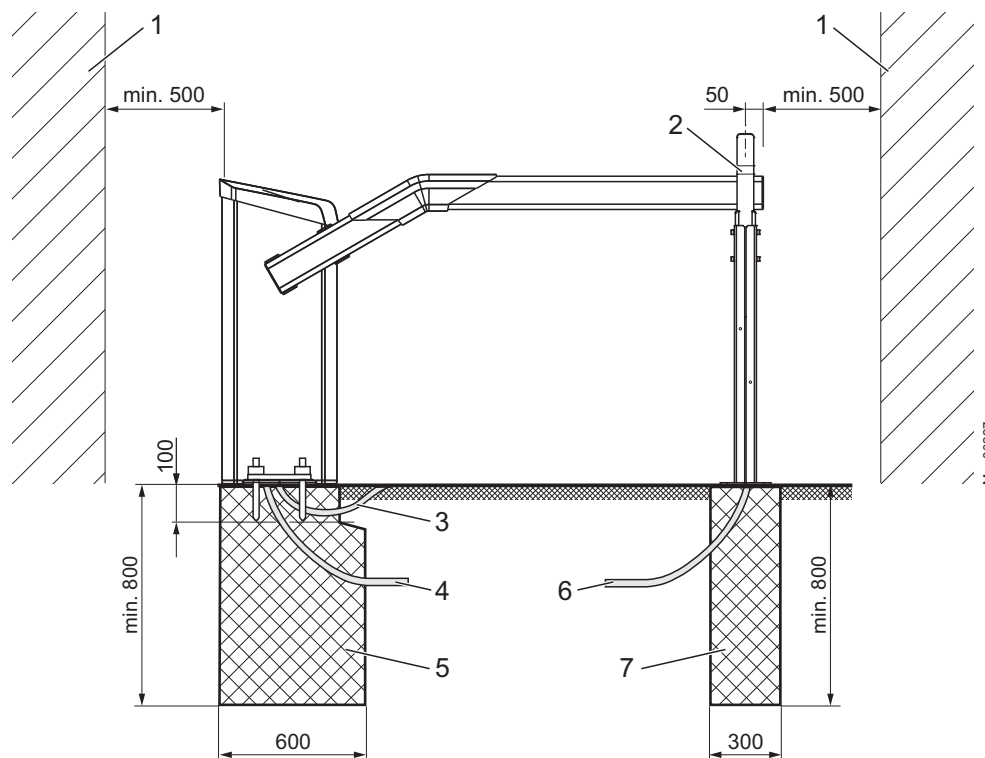
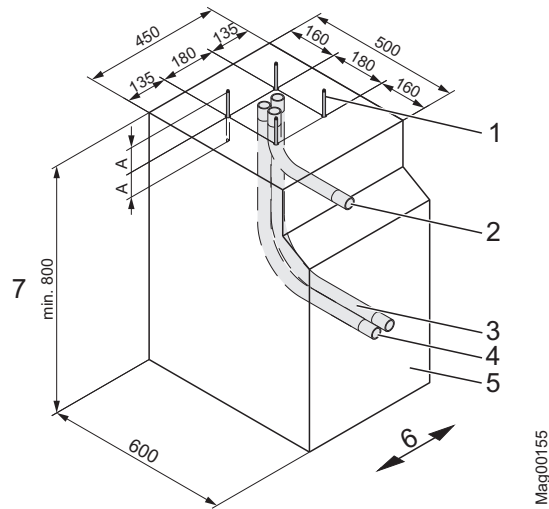
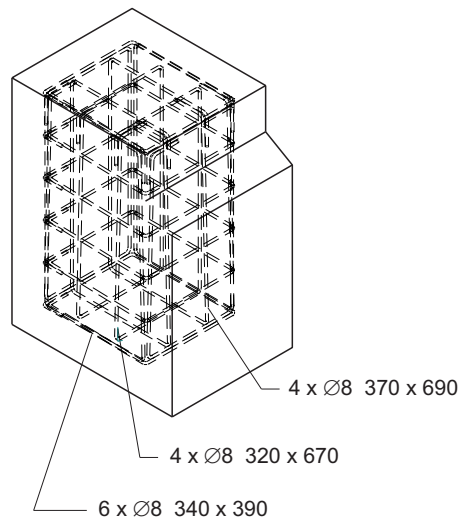

Fig. 13: Assembly boom system, here illustrated for barrier type "Access/Parking" (dimensions in mm)
Fig. 14: Foundation plan (dimensions in mm)
Fig. 15: Reinforcement grid (dimensions in mm)
<p>Danger of crushing and shearing if the safety distance between the barrier boom and other objects is too low!</p> <p>A closing or opening barrier boom can cause severe injuries from crushing if the safety distance to other objects is too low!</p> <ul style="list-style-type: none"> – Keep a safety distance of at least 500 mm between the barrier boom and other objects, such as walls, masonry or houses. → See page 23, chapter 2.7. – Assemble and install barrier system according to Fig. 13.
- Keep a safety distance of at least 500 mm between the tip of the barrier boom and other objects, such as walls, masonry or houses. → See page 50, Fig. 13.
→ See page 50, Fig. 13 and page 52, Fig. 15.
→ See page 52, Fig. 14.
1. Dig foundation hole pursuant to Fig. 13 and Fig. 14.
2. Place reinforcement grid pursuant to Fig. 15 in the foundation hole.
3. Place empty conduits pursuant to Fig. 14 in the foundation hole.
5. Fill concrete foundation pursuant to Fig. 14.
→ See page 50, Fig. 13 and page 55, Fig. 16.